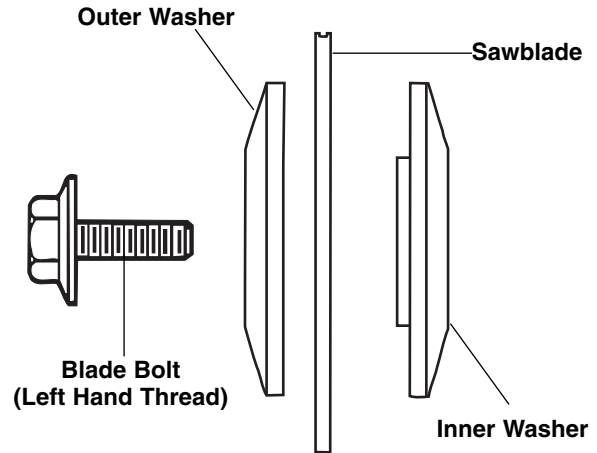

Figure 2. Blade Hardware
5. Remove the blade bolt, outer washer and the blade. Inner washer does not need to be removed (Figure 2).